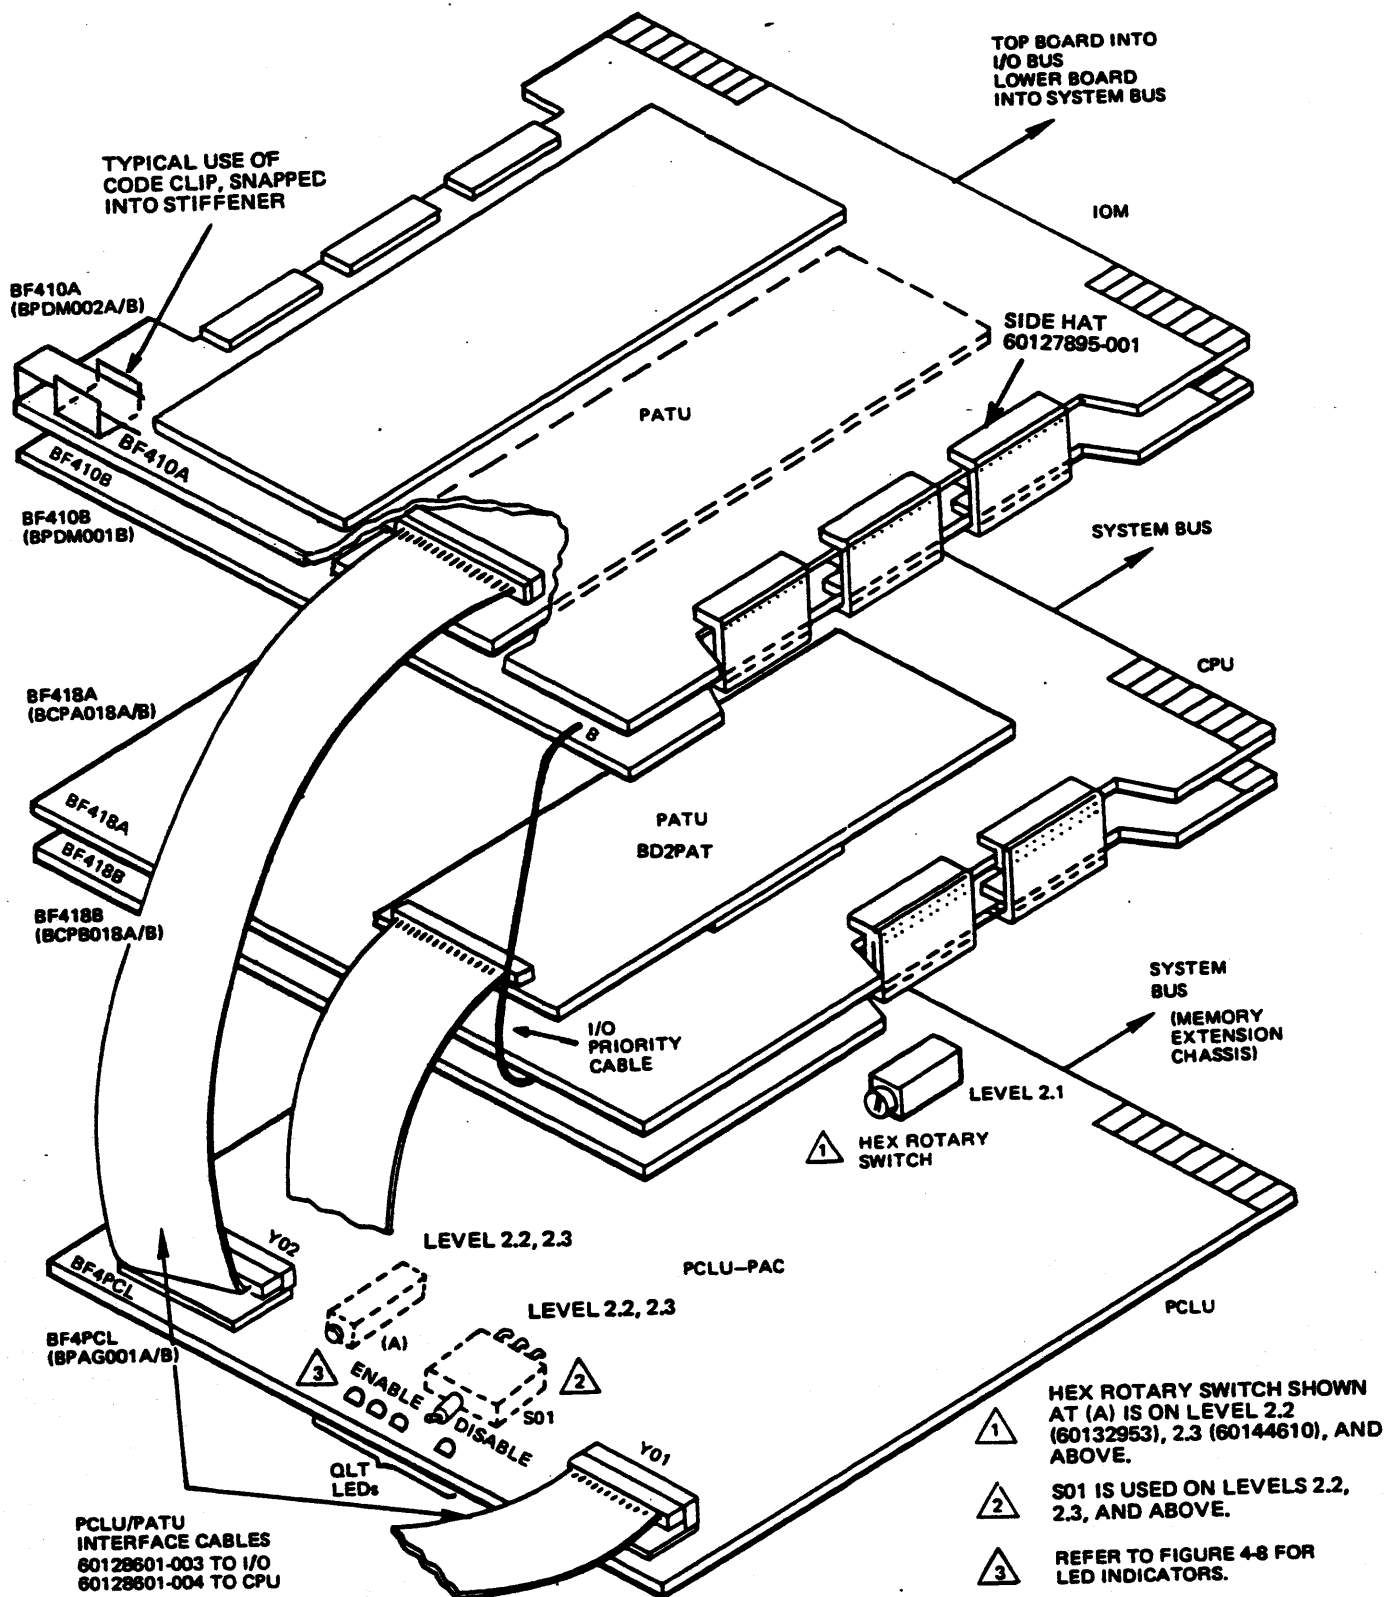

Figure 3-22 Page Control Unit Board Layouts
On the Level 2.1 (60132644) PCU, the hexadecimal rotary switch is set to 0 to enable the board and set to 4 to disable the board. For Level 2.2 (60132953) and above, the hexadecimal rotary switch is set to 0 and switch S01 is set to the left position to enable the pager and to the right position to disable the pager (see Figure 3-22).
14. Connect two cables (60128601-003 and 60128601-004). One is from Y01 on the PCU to the PAT-PAC on the CPU (see Figure 3-22). Connect the other cable from Y02 on the PCU to the PAT-PAC on the IOM.